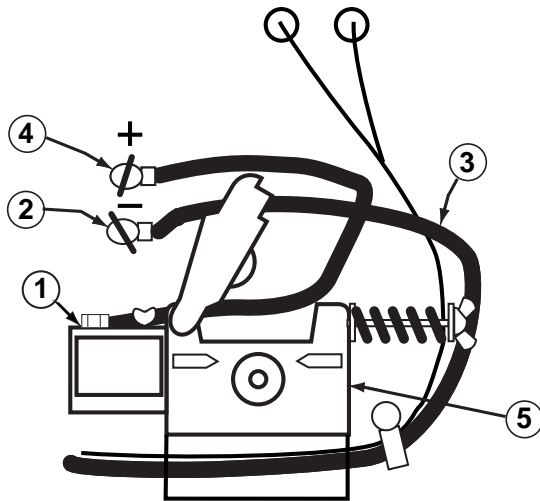

FIGURE A.4
5. **For GMAW Only:** Refer to Figure A.4. To wire for positive polarity (required for the GMAW process), connect the short cable attached to the connector block (1) to the positive (+) output terminal (4) and the work cable (3) to the negative (-) terminal (2).